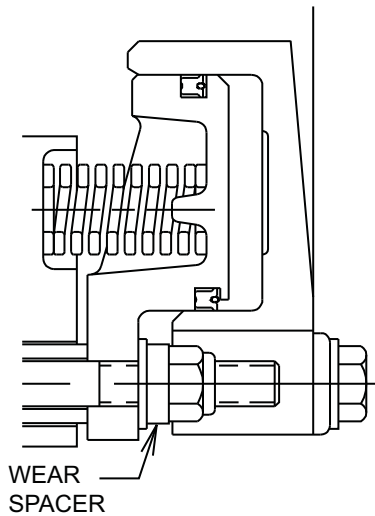

Figure 11 : Wear space location
4.2.2.16 Install the washers (17) onto the studs, followed by the wear spacers (29) removed in 4.2.2.7 and the locknuts (18). The wear spacers are "stored" under the locknuts for use after replacing friction discs. See **Figure 11**.